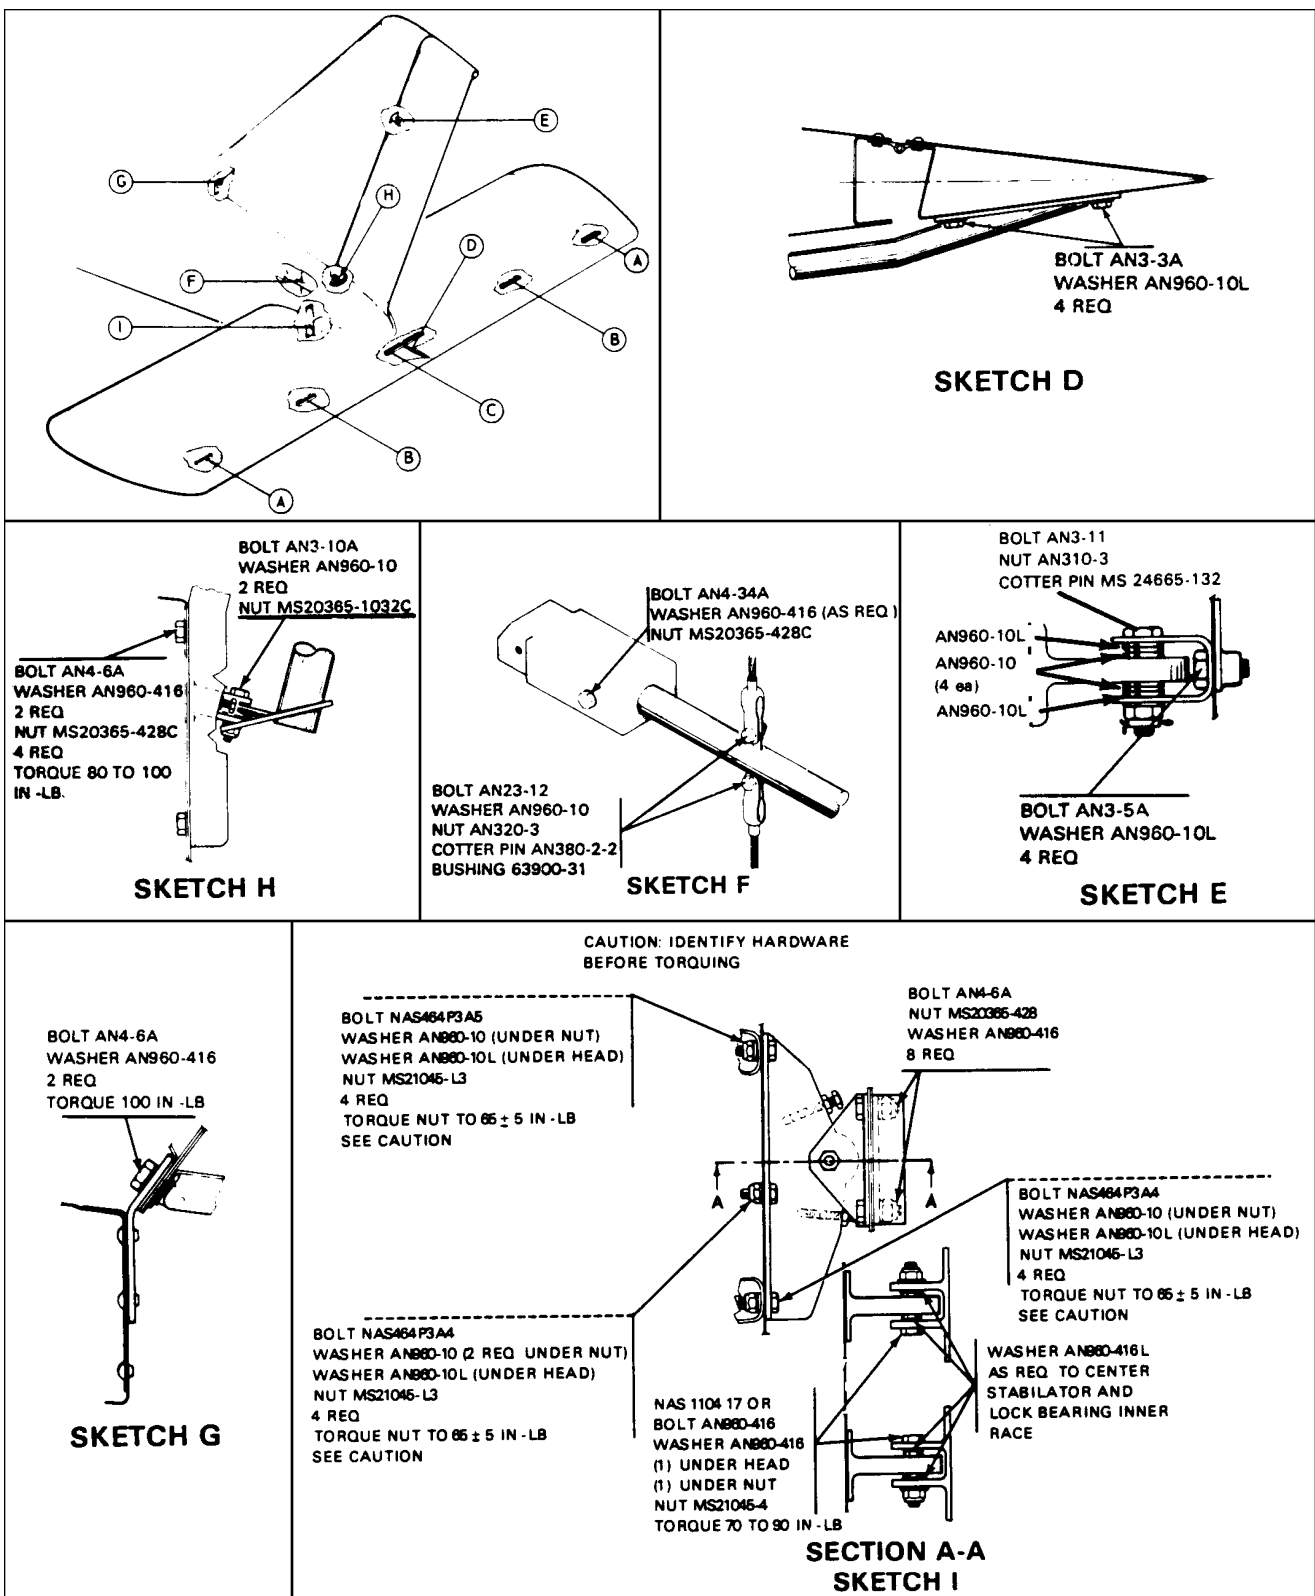

Figure 55-1. Empennage Group Installation
A. REMOVAL OF STABILATOR (Refer to Figure 55-1.)
B. INSTALLATION OF STABILATOR (Refer to Figure 55-1.)
1. Removal Of Stabilator Trim Tab (Refer to figure 55-1.)
2. Installation Of Stabilator Trim Tab (Refer to figure 55-1.)
B. INSTALLATION OF RUDDER. (Refer to Figure 55-1.)